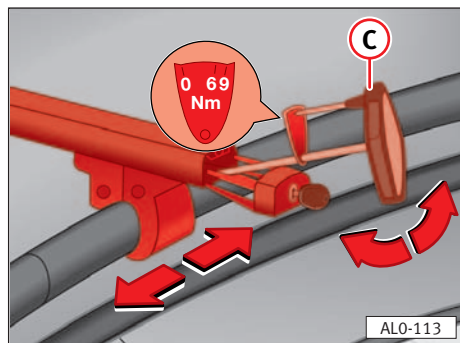

Fig. 117
- 2 – Push dinamometric key ⇒ **fig. 117 ©** into its specific slot.
- 3 – To loosen turn key ⇒ **fig. 117 ©** to the left, and move slide the bar¹⁾.
- 4 – To tighten, turn key ⇒ **fig. 117 ©** to the right, till a torque of 9 Nm is achieved, as shown on the key.